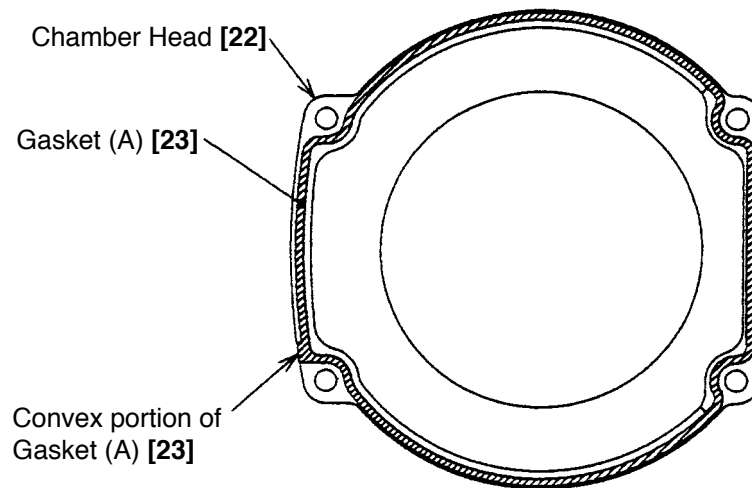

Fig. 48
- Fit Gasket (A) [23] in the groove of the Chamber Head [22] and mount it to the Chamber [24]. Do not protrude Gasket (A) [23] from the groove. Be careful of the mounting direction of Gasket (A) [23] (Fig. 48).